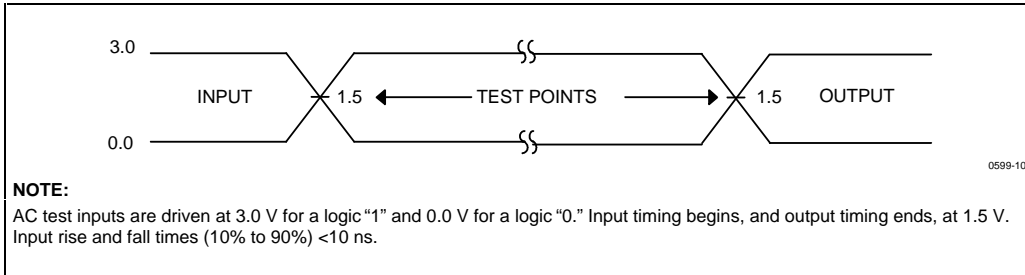

Figure 11. High Speed Test Waveform
2. 5% V_{CC} specifications apply to the high-speed test configuration (Figures 11 and 13).